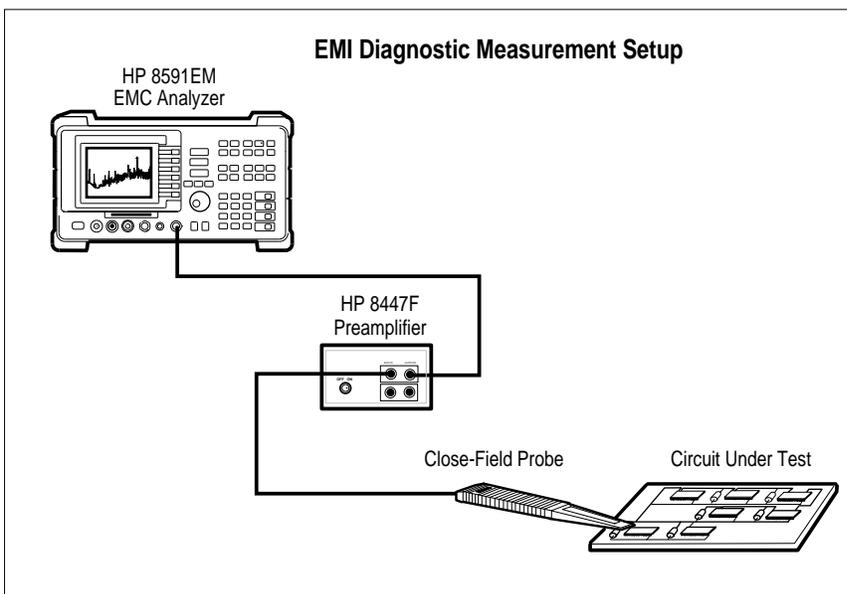

Figure 17. Diagnostics setup interconnection.
1. Connect the diagnostic tools as shown in the Figure 17 below.